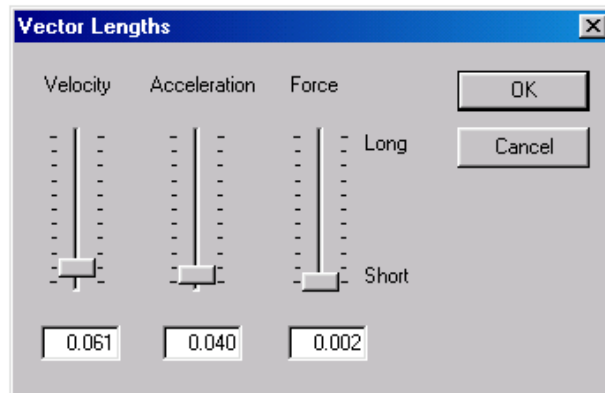

Figure 6
8. If you see a long force vector, you can change the size of the vector displayed on the screen by selecting Vector Lengths ... from Define menu and changing the length of the Force Vector to a desired value (0.002 in this example) similar to Figure 6.